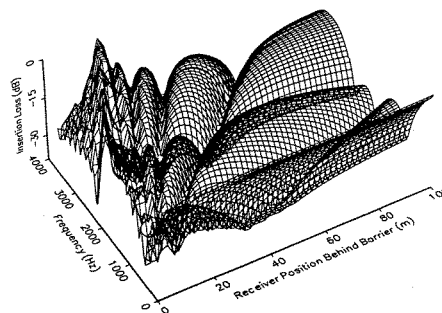

Fig 2: IL vs Distance and Frequency
The barrier performance will be measured in terms of insertion loss (IL). The insertion loss is calculated from the difference of the sound levels with and without the barrier. Figure 2 shows the insertion loss in the shadow region of the standard barrier as a function of both frequency and position behind the barrier. Depending on the chosen frequency and receiver position, any point on the plotted surface could be a measure of the barrier's insertion loss (with a range of about 40 dB).